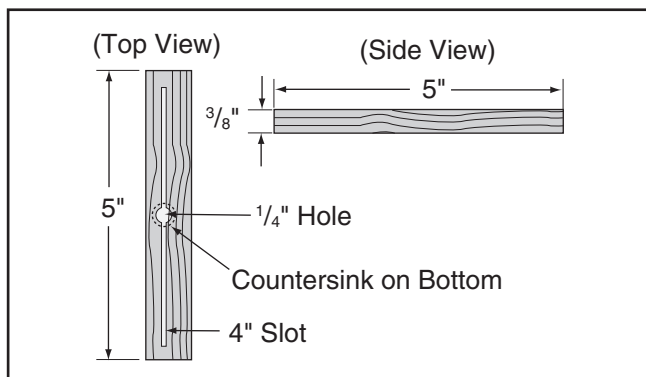

Figure 98. Miter bar pattern.
5. Cut a miter bar that will fit in the table miter slot approximately 5" long, as shown in **Figure 98**.